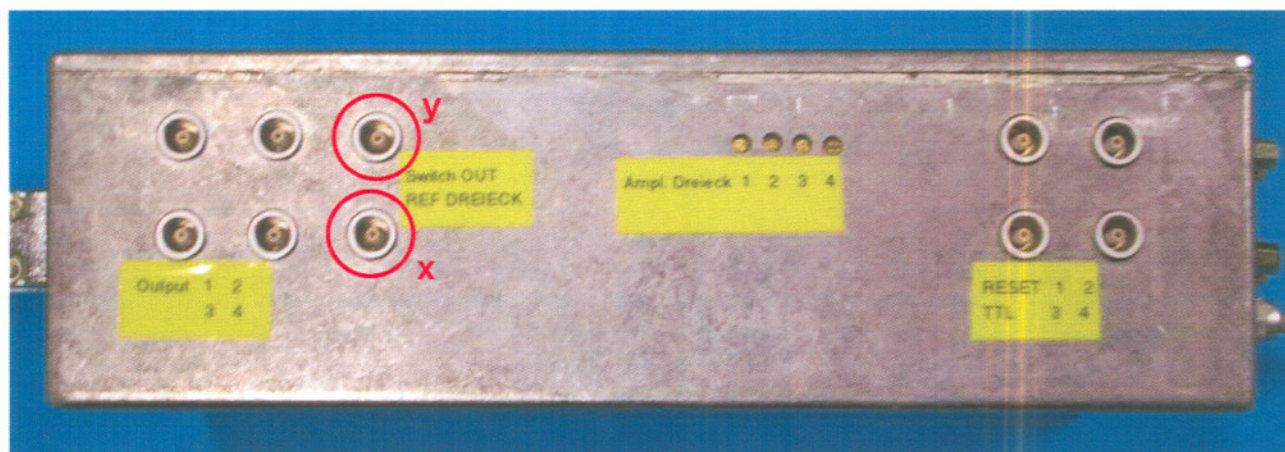

Fig. 15. LEMO connectors for visualization of the SQUID test signal with an oscilloscope.
3. Connect the "Signal out" connector (coaxial LEMO jack) of the JSQ Tiger controller with the vertical y channel of a standard oscilloscope. Connect the "Modulation out" connector (coaxial LEMO jack) of the JSQ Tiger controller with the horizontal x channel of a standard oscilloscope (see Fig. 15). The oscilloscope should be switched to the x-y-mode for SQUID working point adjustment.